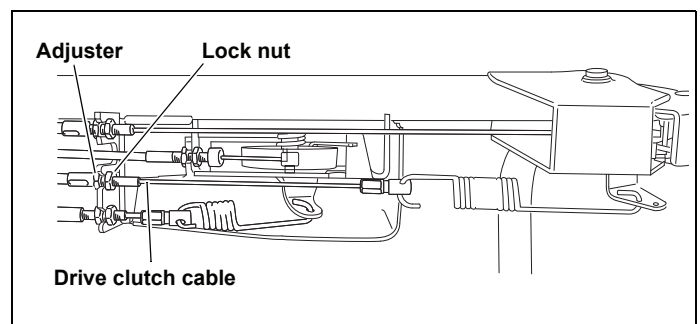

Fig. 5-10
1. If adjustment is necessary, adjust by turning the adjuster and loosening the lock nut on the drive clutch cable. Fig. 5-10
2. Set the adjuster to the optimal position and tighten the lock nut. Fig. 5-10